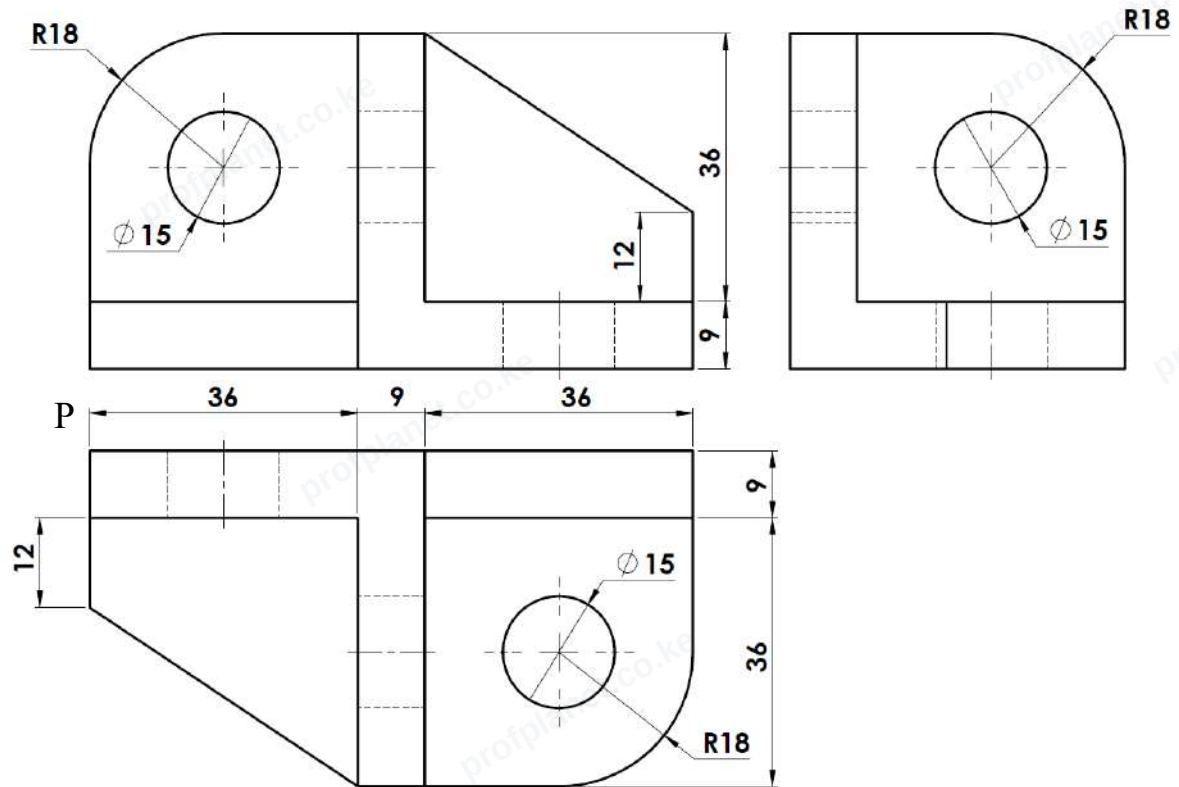

Figure 4.
15. Figure 4 shows the orthographic views of a casting. Using a CAD software, draw the isometric projection of the casting with corner P as the lowest point. (20 Marks)